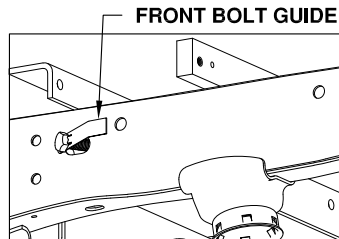
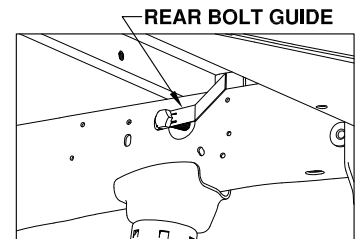

Figure C3: View from outside of Driver Side Frame, Bolt installation Step. 1
Figure C6: View from inside of Driver Side Frame, Bolt installation Step. 1
2. **Install the bolt guides.** Insert the front bolt guides (shorter ones) into the frame and guide the threaded end of the bolts out the holes as shown in Figures C3 to C5. Insert the rear bolt guides through the large holes on the inside of the frame rails and guide the threaded end of the bolts out of the holes in the frame as shown in Figures C6 TO C8.